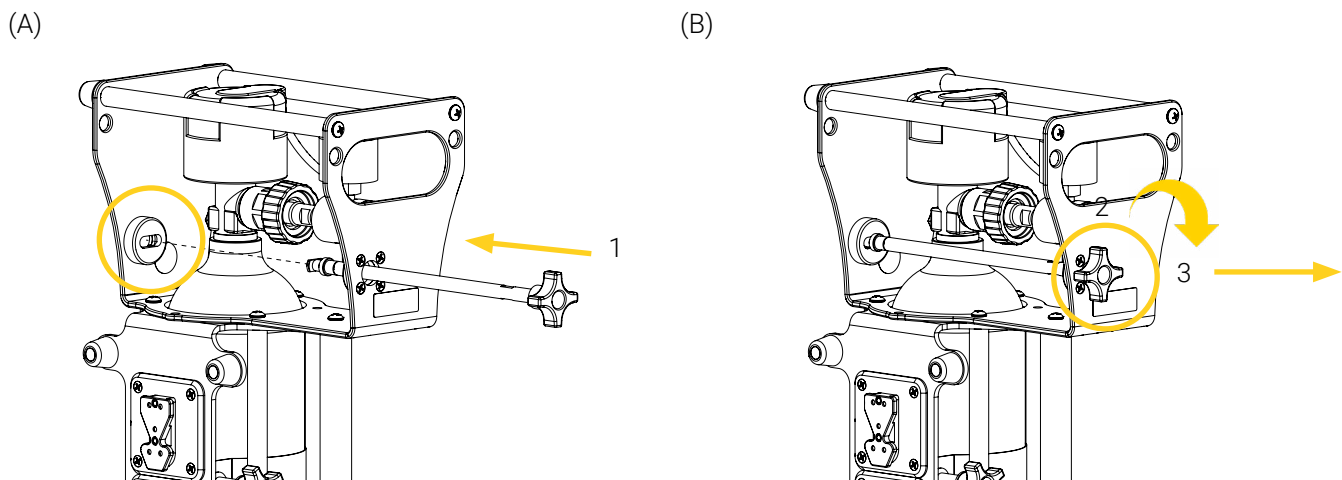

Figure 10: Locking the mounting bracket
8. Align and insert the end of the locking rod in the locking mechanism (Figure 10 A), push on and hold down the knob of the locking rod, then rotate it a ¼ turn clockwise to lock the mounting bracket (Figure 10 B).